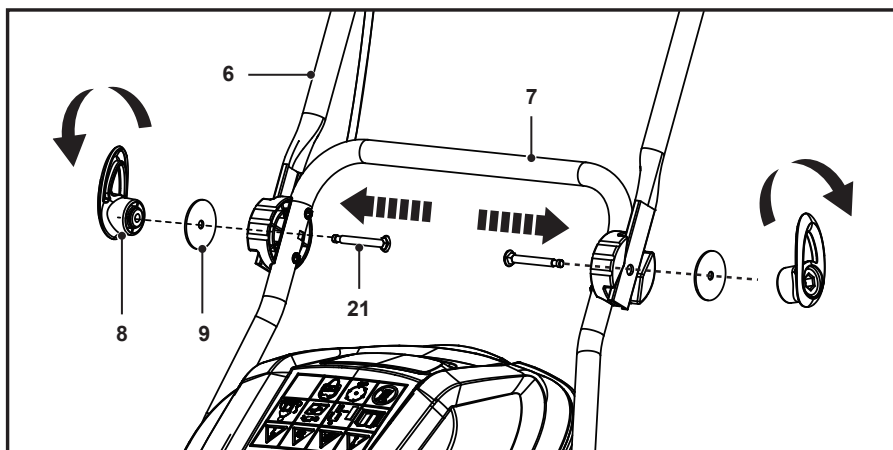

Fig. 2
1. Detach the wing nut (8) and washer (9) from the bolt (21).
2. Align the mounting holes on the upper handle (6) with those on the brackets of the lower handle (7).
3. Pass the bolts (21) through the mounting holes to the end, then secure the upper handle (6) and lower handle (7) with the bolts (21), wing nuts (8) and washers (9) (Fig. 2).